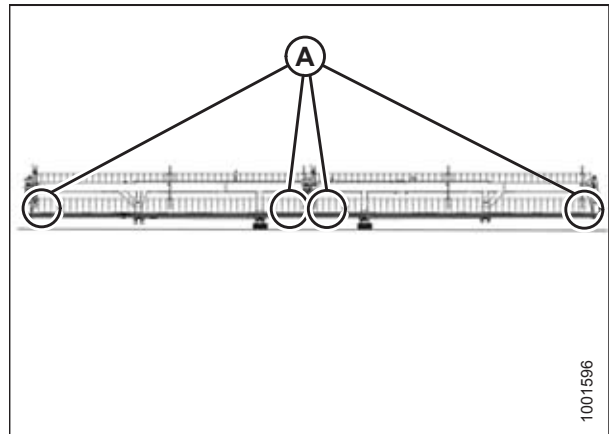

Figure 5.29: Double-Reel Measurement Locations
- Figure 5.29, page 68 – double reel